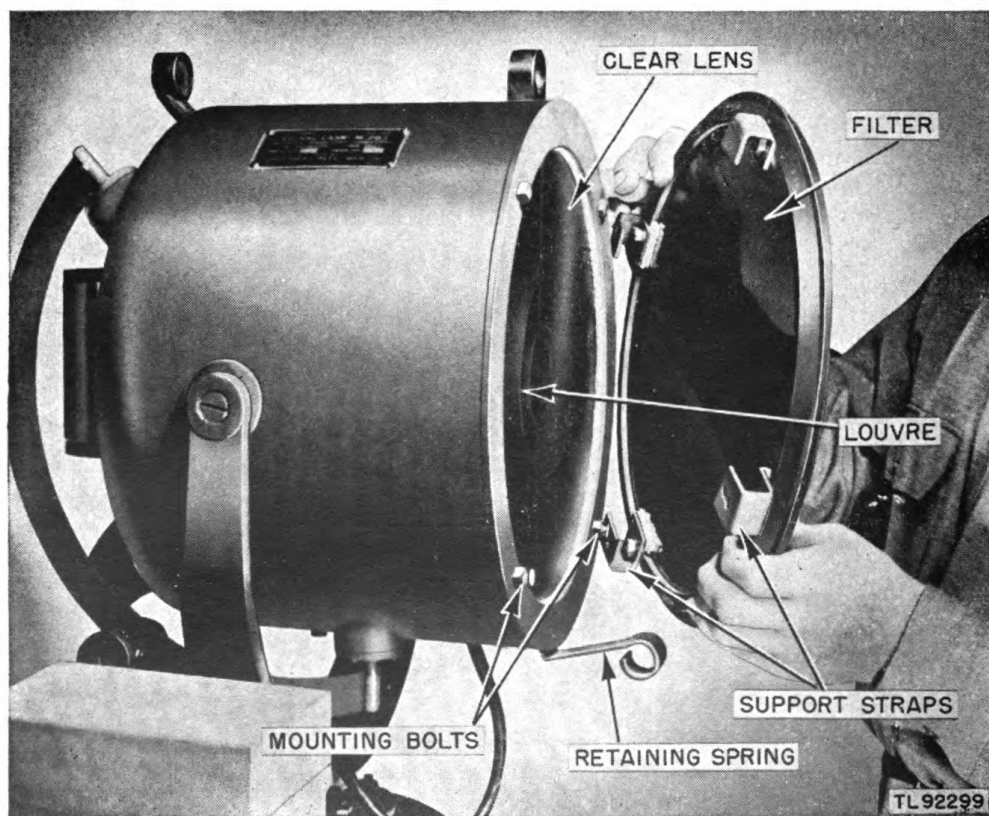

Figure 11. Mounting of filter
16. Mounting Filter MC-121 or MC-122 (fig. 11).